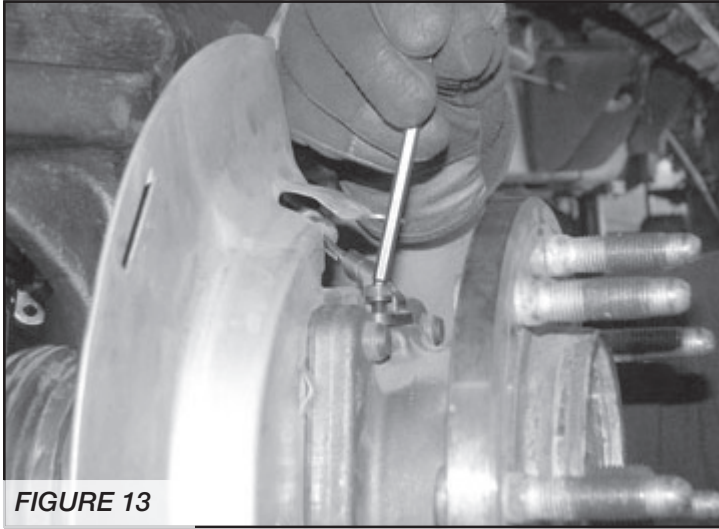

FIGURE 13
26. Install the wheel speed sensor into the factory hub. **SEE FIGURE 13**